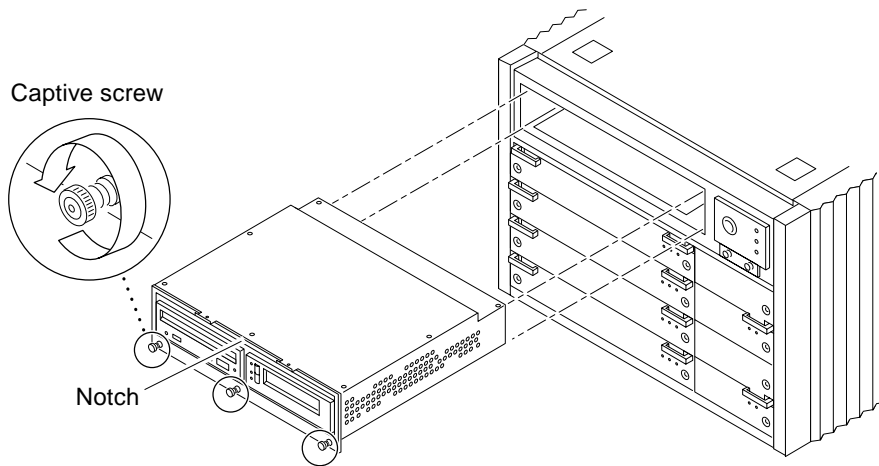

FIGURE 12-8 Removing the Media Tray
Insert a screwdriver in the notch at the top center of the media tray to pull out the media tray. (FIGURE 12-8).
3. Remove the seven screws on top of the media tray to lift off the tray cover to access CD and tape drives (FIGURE 12-8).